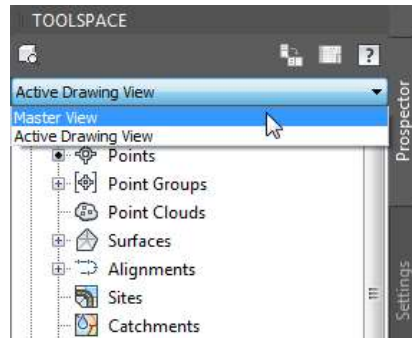

Figure 13-21 Selecting the Master View option
1. Select **Master View** if not selected by default, from the drop-down list displayed at the left of the **Prospector** tab in the **TOOLSPACE** palette, refer to Figure 13-21.